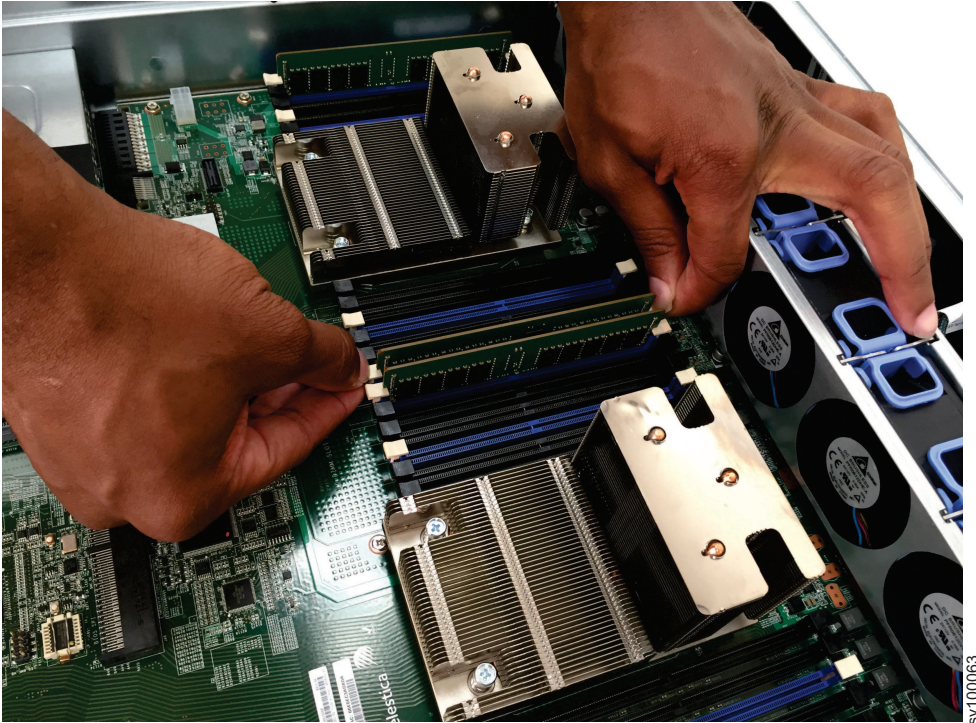

Figure 107. Ejecting a memory module
- Press the locking tabs on the side of the DIMM to eject it, as shown in Figure 107 on page 131.